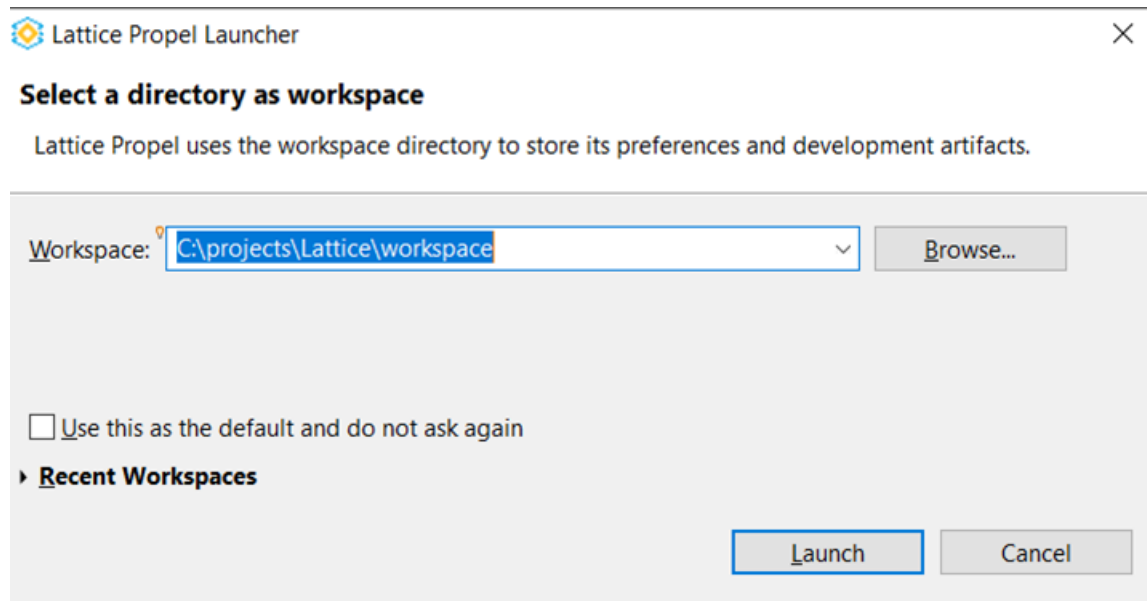

Figure 4: Setting a Workspace Directory
1. Launch **Lattice Propel**  and choose the workspace directory, see **Figure 4**.